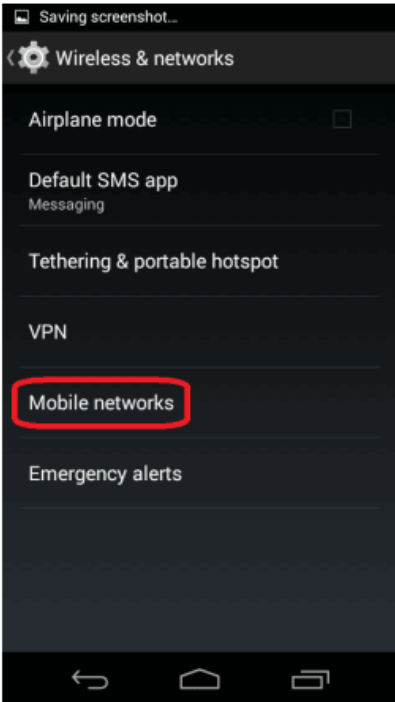
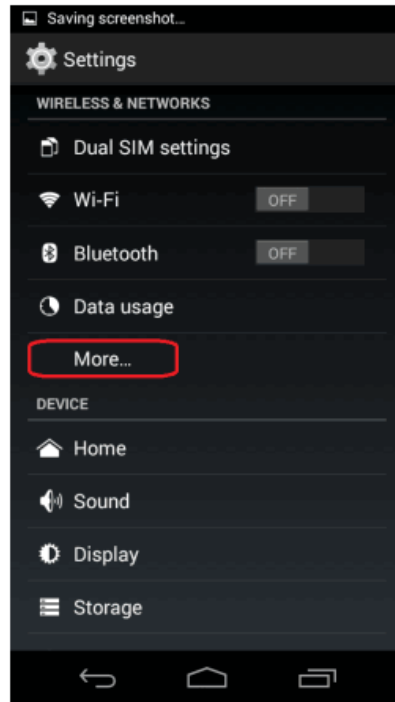

Figure 3
Figure 4
- Under Wireless & Networks, go to "mobile networks" (Figure 3). Click "more settings" to get this option. (Figure 4).